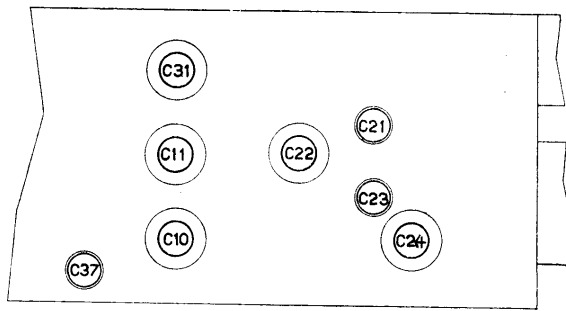

Fig. 4.
6. Trim C24 and then C21 for maximum output (see Fig. 4).
9. Trim C22 and then C23 for maximum output (see Fig. 4).
6. Trim for maximum output in that order C31, C11, C10, C31, C11 (see Fig. 4).